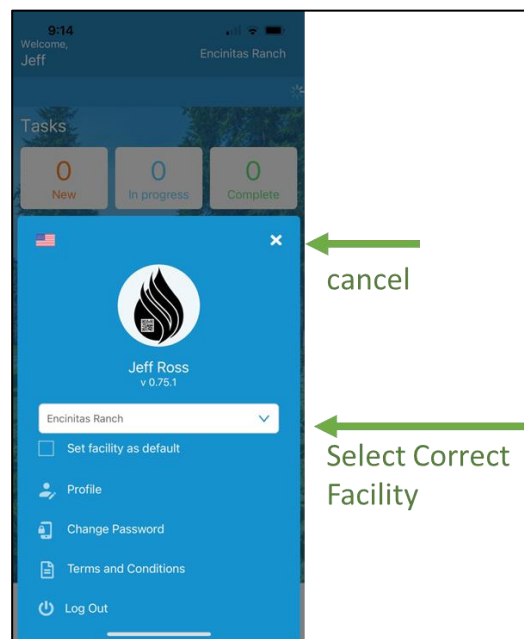

Figure 6
- ii. Tap the down arrow key next to the current Facility name. (Figure 6)
- iii. Select the correct facility and then tap the “x” to cancel out of the options screen. (Figure 6)